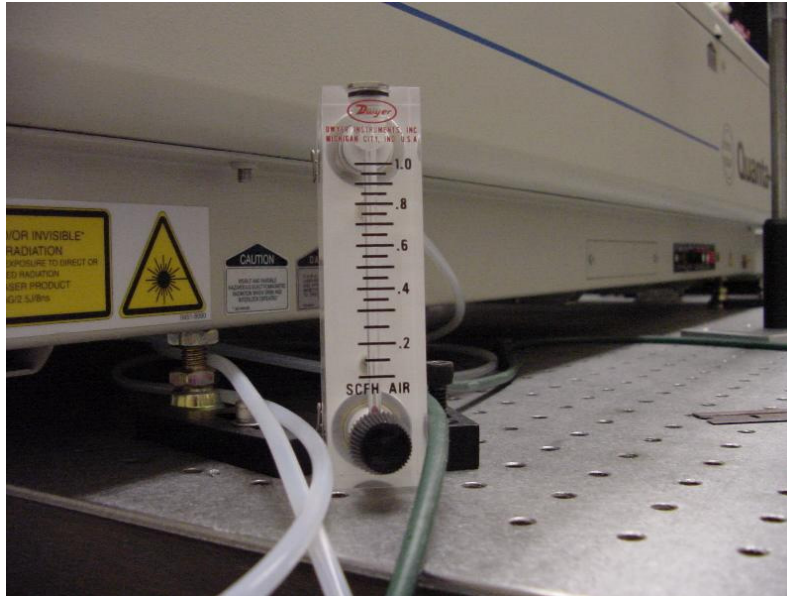

Figure 4: Picture of Nitrogen Distribution Meter.
5. **Check the nitrogen flow at gauge on the right side of Nd-YAG laser and adjust to 0.4-0.6 scfh** (standard cubic feet per hour). (See Floor Plan ④ on pg. 1 and Figure 4)